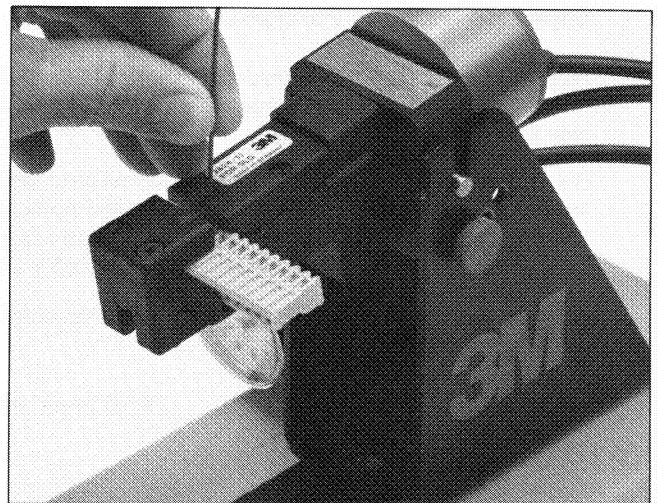

Figure 4
4. Place the appropriate wire in the slot in the assembly head, making sure it goes all the way to the bottom (Figure 4).